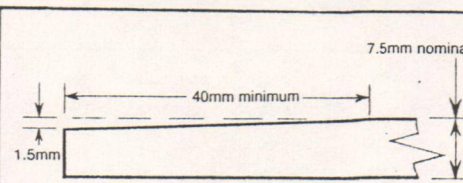

Fig. 16 Site ground recessed edge detail
- Where it is necessary to produce a tapered edge on site, use a portable angle grinder fitted with a strong, thick carbide blade or similar. Run down the edge at an acute angle to the face to produce a taper approximately 40mm wide but not exceeding 1.5mm at its deepest point. (Refer Fig. 16).